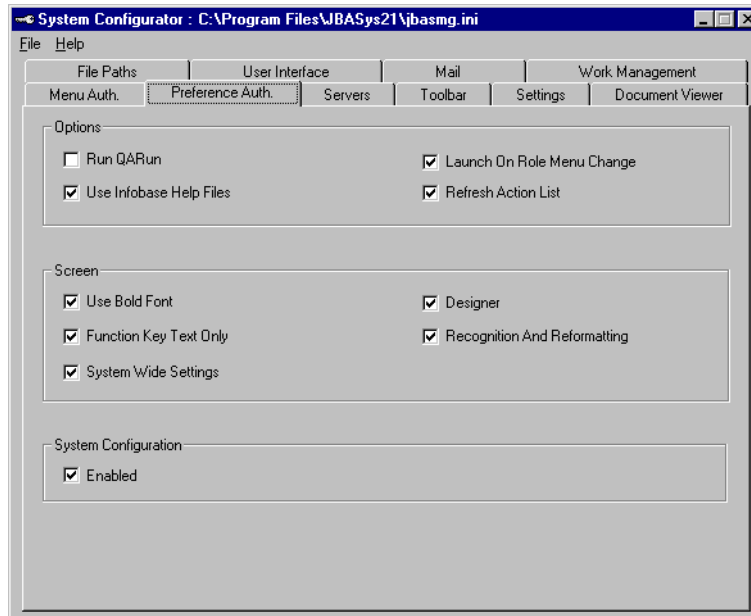

Figure 81. System Configuration for Designer access
3. The user that wants to use Designer must have their System 21 Explorer configuration changed to allow access to Designer. This is performed in the System Configuration utility of System 21 Explorer as shown in Figure 81.